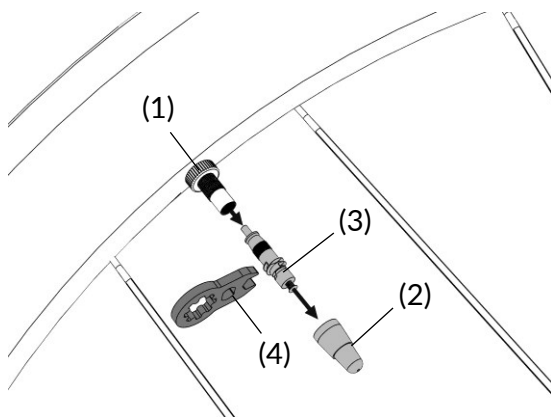

Figure 2: Remove Presta core + valve cap
2. If possible, fixate the Presta valve stem (from the inner tube) securely to the rim, by means of the locknut supplied with your inner tube (1), see Figure 2. Do not pressurize the tire at this point.
3. Remove the valve cap (2) and remove the standard Presta valve core (3) from the stem of your inner tube, using the middle opening in the GRAVAA valve tool (4). See Figure 2. You do not need this Presta valve core anymore. Please store it for later or dispose it appropriately.